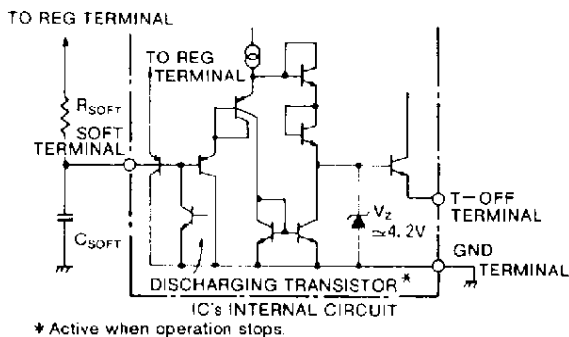

Fig. 6 Circuit diagram of SOFT terminal section and T-OFF terminal section
- ① It is ideal for primary control as IC driving current is supplied from the third winding of the main transformer at the start-up because constant ON duration is obtained from start-up.
- ② It is possible to get a wide dynamic range for ON/OFF ratio by pulse-by-pulse current limit circuit.
- ③ The response characteristics at power-on is not affected by input voltage as the pulse-by-pulse limit current value is not affected by the input voltage.
Fig. 6 shows the circuit diagram of the soft start. If SOFT terminal voltage is low, T-OFF terminal voltage becomes low and  $V_{T-OFF}$  in equations (3) and (4) become low.